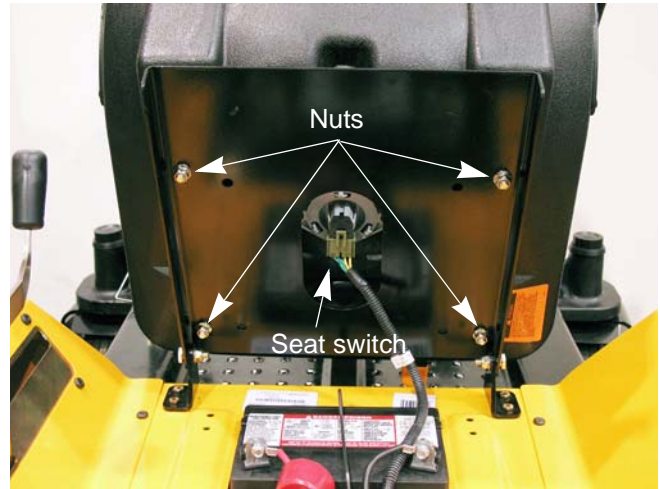

Figure 4.22
2. Remove the four nuts that hold the seat track to the seat base using a 1/2" wrench. See Figure 4.22.